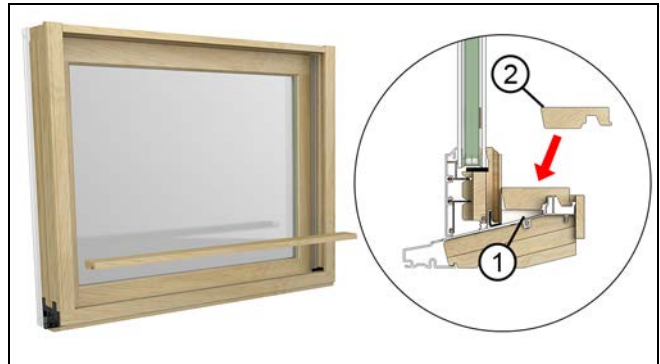

Figure 73
4. Fit the wood sill filler block over the foam block and thermal break. See Figure 73.